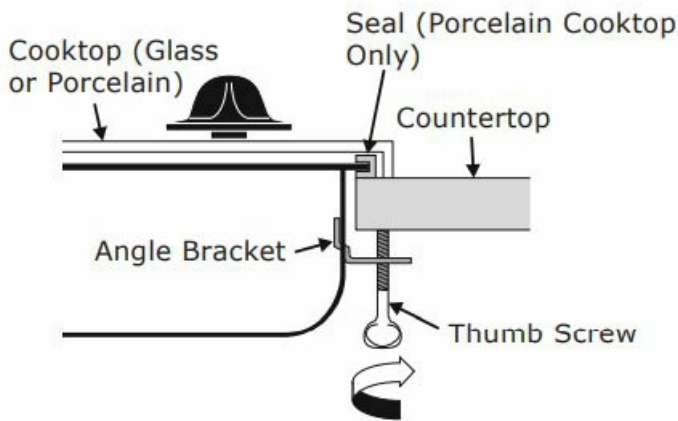

Figure 6c
6. Once the cooktop is installed, clamp the unit down, insert the angle bracket into the slot on each side of the unit as shown (Fig. 6c). Run the thumb screw up through the bracket, up against the bottom of the counter. Tighten until the unit draws down and is secure.